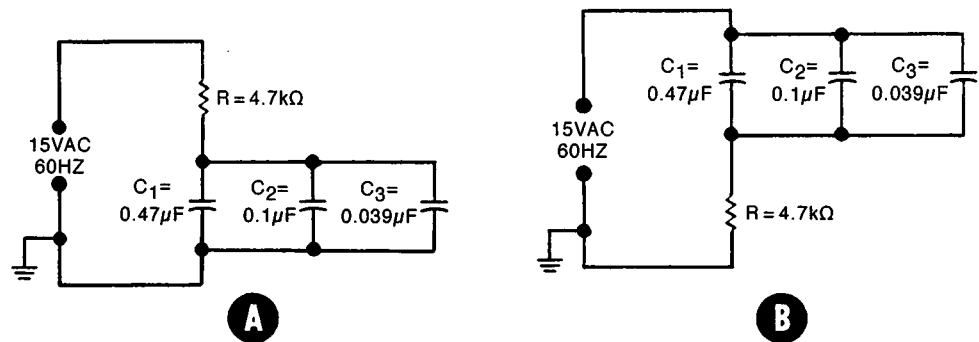
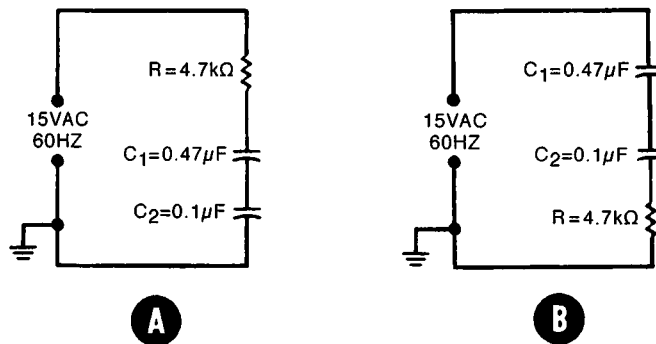

Figure 3-32
Figure 3-33
20. In the previous steps, you already demonstrated the effect of changing the capacitance in a circuit. By assembling the data you accumulated earlier, you will see how changing the capacitance affects the reactance. In Figure 3-30 the total circuit capacitance is .47 μF . In Figure 3-32 the total circuit capacitance is .609 μF . In Figure 3-33 the total capacitance is .0825 μF . In each of these circuits, you computed the total capacitive reactance. Record the corresponding values of reactance for each capacitor in the spaces provided below: